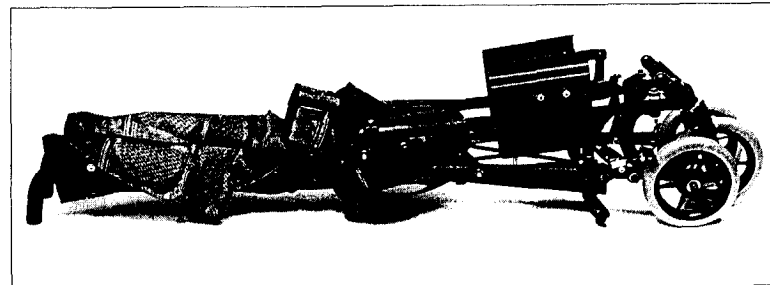

Fig.103
3. Lean chair backwards on rear wheels and push on seat tubes or footplates to complete fold. **Fig.103**